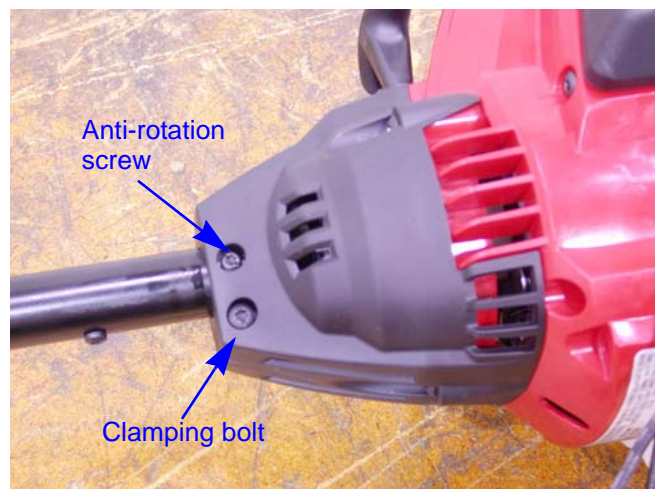

Figure 7.5
7. Loosen the clamping bolt with a T-20 driver. See Figure 7.5.